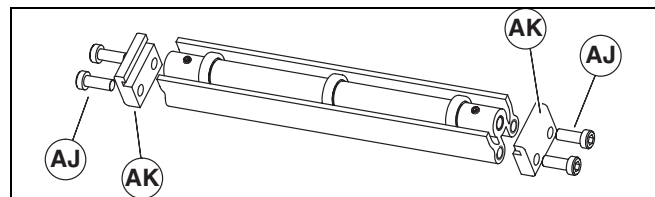

Figure 14
1. Locate return rollers. Exploded view shown in Figure 14.
2. Remove screws (Figure 14, item AJ) and clips (AK) from roller assembly.